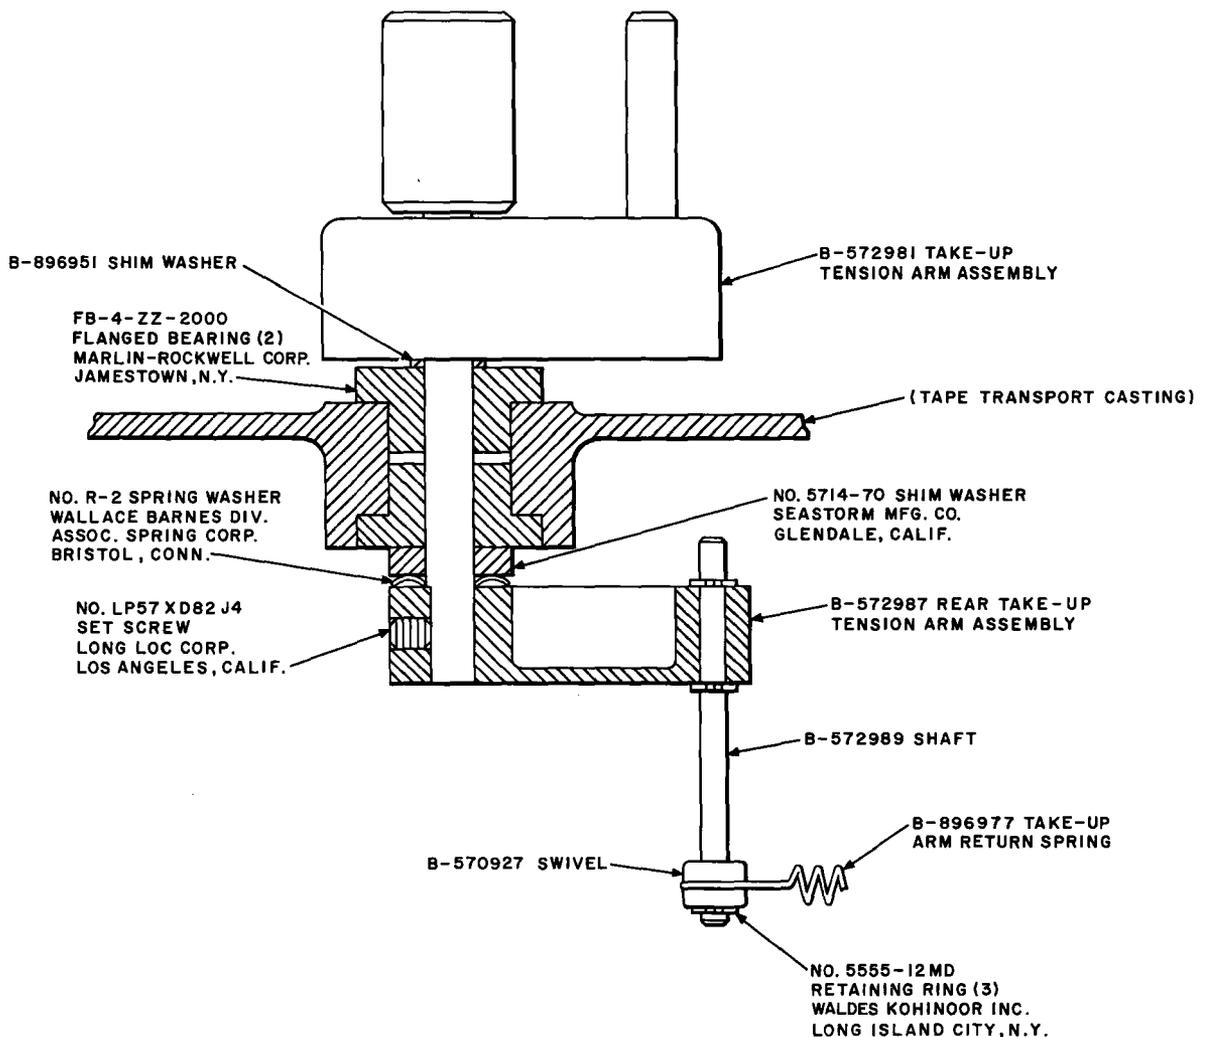

Fig. 21 — Sectional View of Take-Up Tension Arm Assembly — KS-19125, List 2 Recorder
take-up arm return spring swivel from shaft. Using the 1/16-inch Allen wrench, loosen setscrew in the end of rear take-up tension arm assembly (Fig. 21); and remove tension arm assembly, spring washer, and shim washer from shaft. Remove take-up tension arm assembly (Fig. 11) from front of tape transport. Remove shim washer from shaft of take-up tension arm.
(2) Before installing take-up tension arm assembly, clean shaft with a clean KS-2423 twill cloth.
(3) Install shim washer on shaft of take-up tension arm assembly, and insert shaft through the flanged bearings from front of tape transport. Install shim washer, spring washer, and rear tension arm assembly on shaft as shown in Fig. 21. While applying 1/2 to 2 pound preload pressure against the flanged bearings, use the 1/16-inch Allen wrench to tighten setscrew in the end of rear take-up tension arm assembly. Check the shaft for longitudinal play, and observe that the spring washer is not completely compressed.